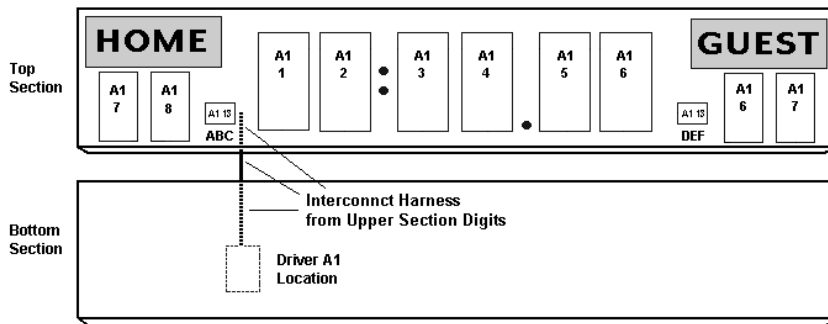

Figure 9: Interconnect Harness Connections with Digit Designation
Figure 9 illustrates the interconnect harness connection.
3. Harnesses should be protruding through a pair of 2¹/₂" holes on the left end of *Section D*. Refer to **Figure 9**. Run these cables into the mating holes on the right side of *Section C*, and then continue to route the cabling up and through the two end holes in the top of *Section C*. There are four holes on the upper right side of the *Section C* cabinet. The first two holes are occupied by the digit interconnect cabling from *Section C*, and these two cables should already be routed up and through the top of the scoreboard cabinet.